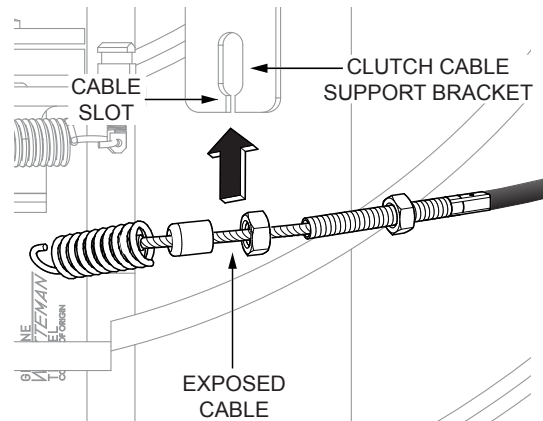

Figure 17. Clutch Cable Insertion
8. Insert the exposed cable into the cable slot on the clutch cable support bracket (Figure 17).